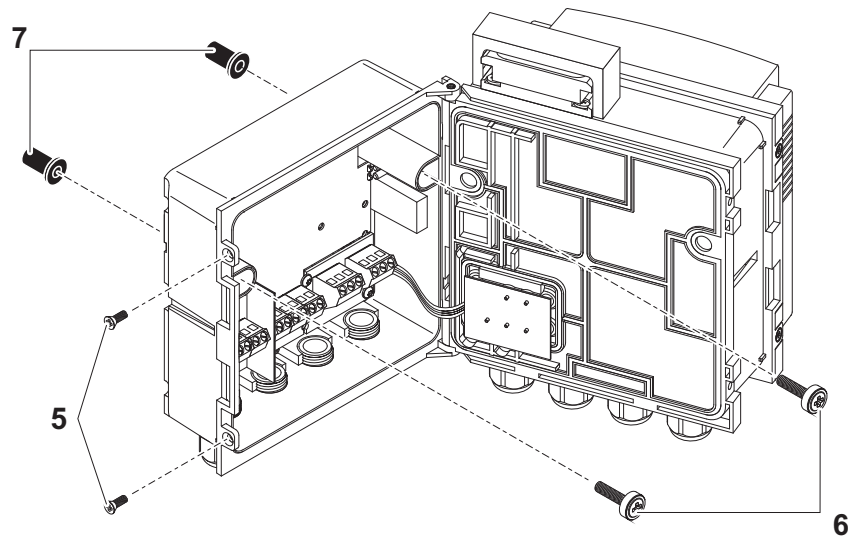

Fig. 3-16 Mounting the sun shield: Premounting the ISO blind nuts
| 2 | Remove the two countersunk screws (pos. 5 in Fig. 3-16) and swing open the lid.  |
| 3 | Insert the cheese-head screws (pos. 6 in Fig. 3-16) with the plastic washers in the drilled mounting holes and loosely screw in the ISO blind nuts (pos. 7). |
| 4 | Position the DIQ/S 182-XT-4-PR on the sun shield and fix it into place with the two screws (pos. 6 in Fig. 3-16). |
| 5 | Close the lid and fix it with the two countersunk screws (pos. 5 in Fig. 3-16).                                   |